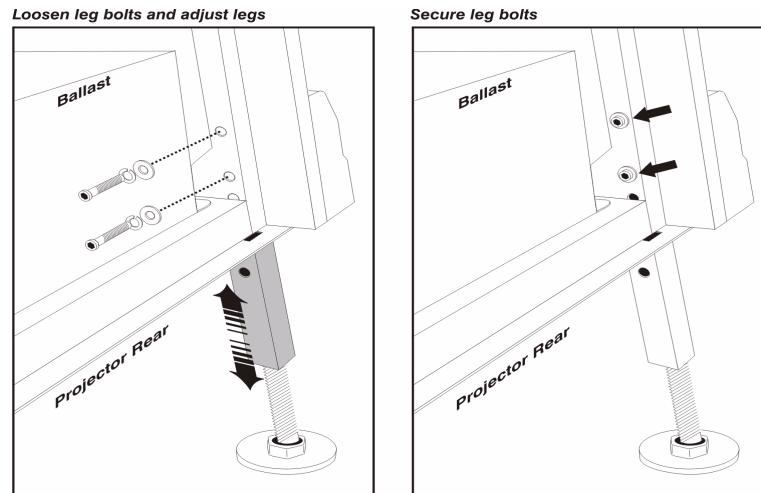

Figure 3-31 Adjust Rear Extender Legs
5. On each side of the rear opening in the pedestal, loosen the 2 bolts securing the rear extender legs to the projector (**Figure 3-31**).